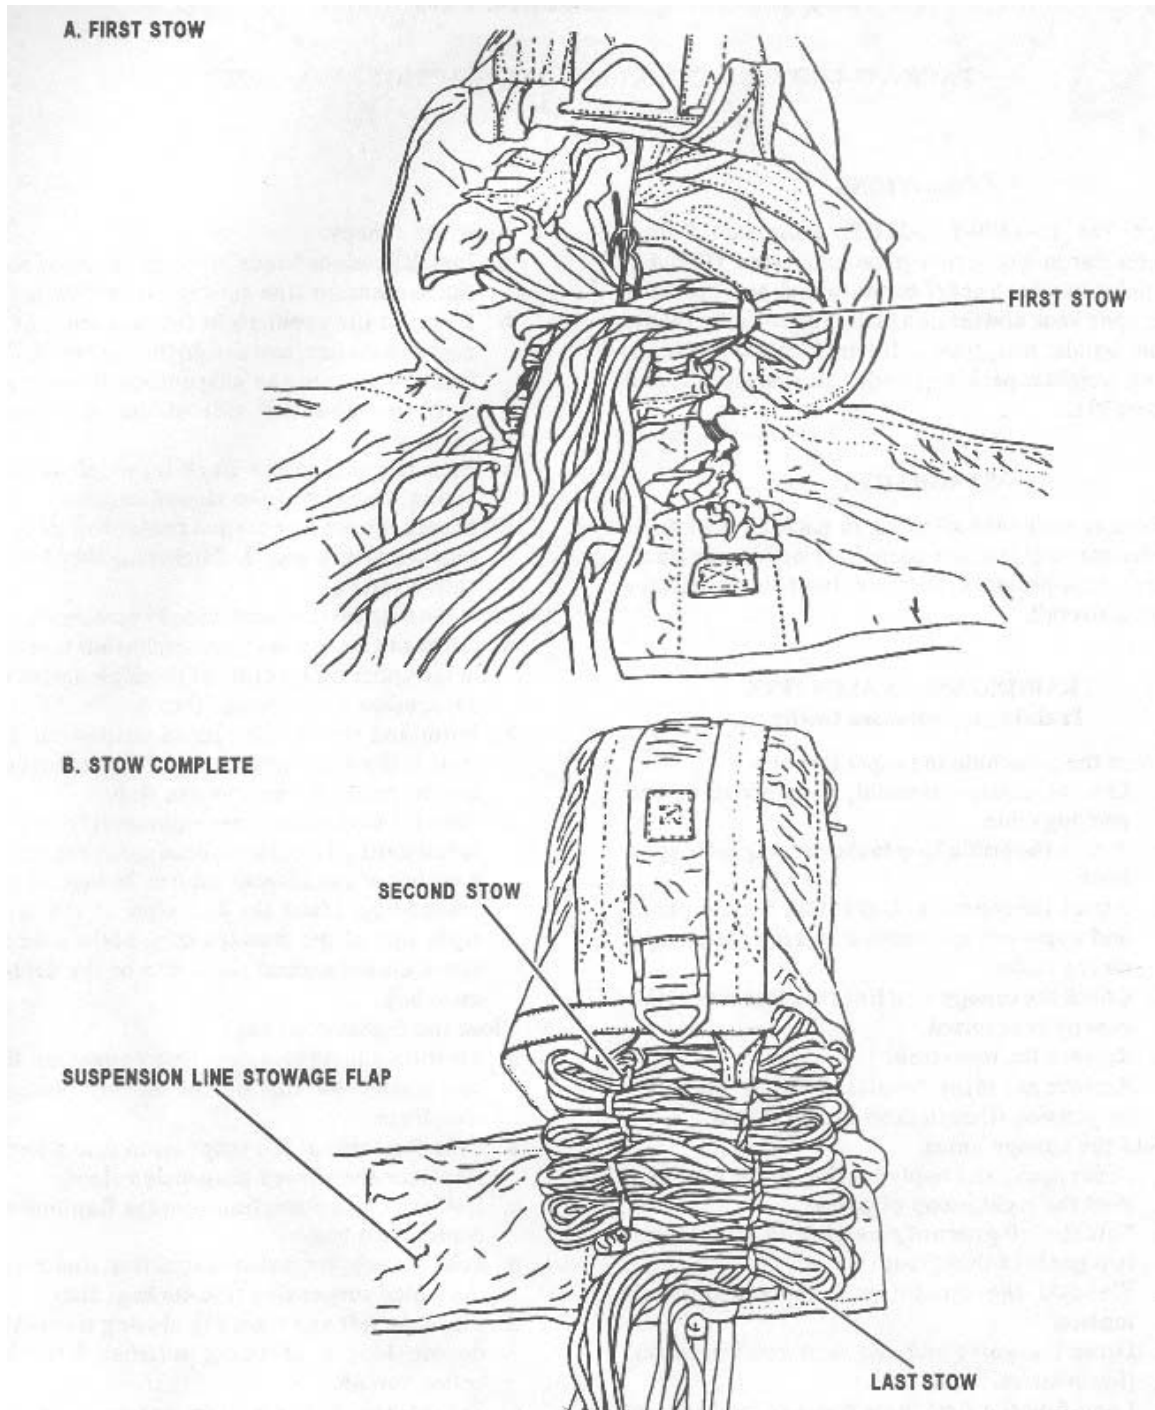

Figure 3-36
4. Stow the suspension lines. (See Figure 3-36)